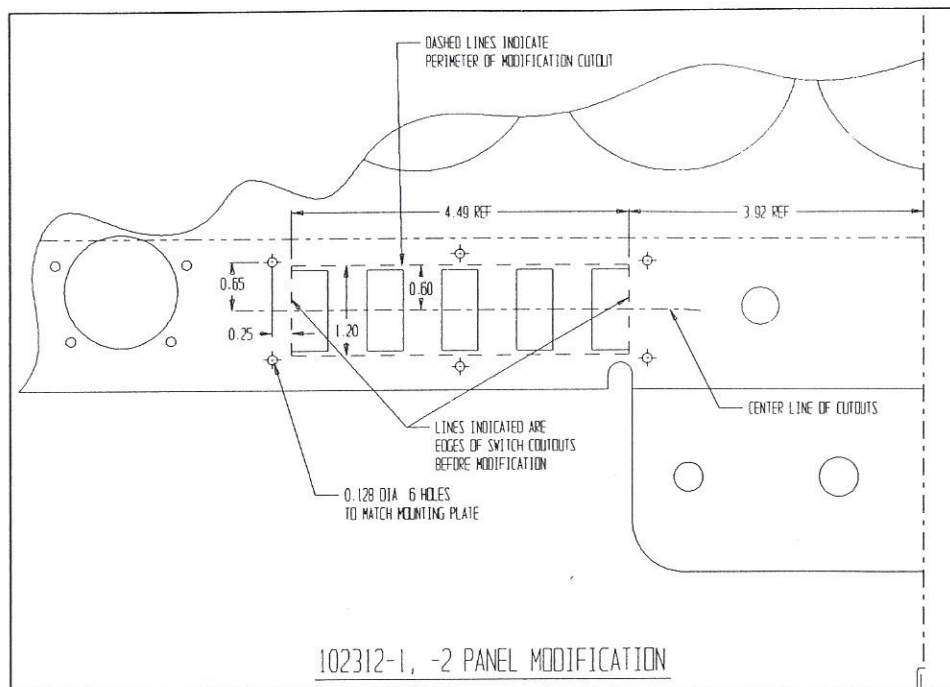

Figure 1
5. Modify panel as shown in **Figure 1** by cutting through the metal panel and its plastic cover and then drilling the holes shown to match the FA102312-1 mounting plate.